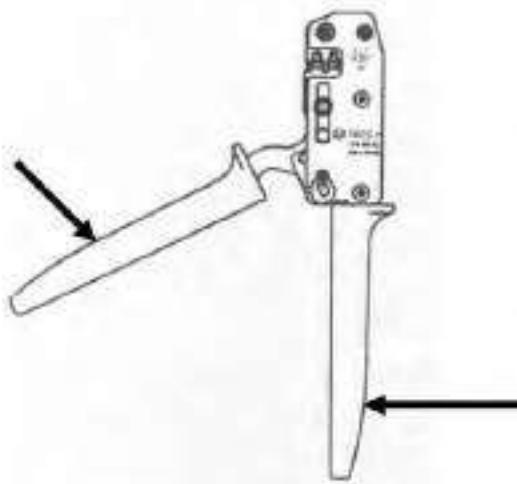

Figure 84
(3) Press plier handles together up to stop (Figure 84).